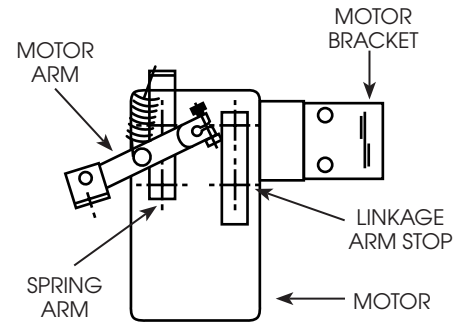

Figure 4 AFTER
1. Remove motor bracket and reinstall in position shown in Figure 4.
3. Install spring arm in position shown in Figure 4.
4. Reinstall linkage arm stop and position as shown in Figure 4 using screws from parts bag.